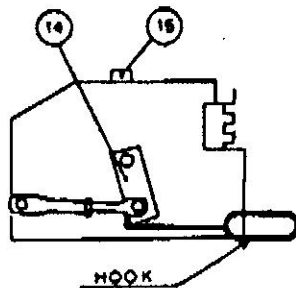

Fig. 13
To test tripping of breaker by the release crank, place a wire hook as shown in Fig. 13 and hold while applying a momentary signal of 12-18 volts D.C. to the tripping actuator EX. When release unlatches, slowly allow release crank to withdraw until breaker trips open.
- a) Adjustment. Insert wire hook shown in Fig. 13 and hold release crank (14) while applying momentary signal of 9 - 18 DC to the tripping actuator. When release unlatches, slowly allow release crank to withdraw until breaker trips open.